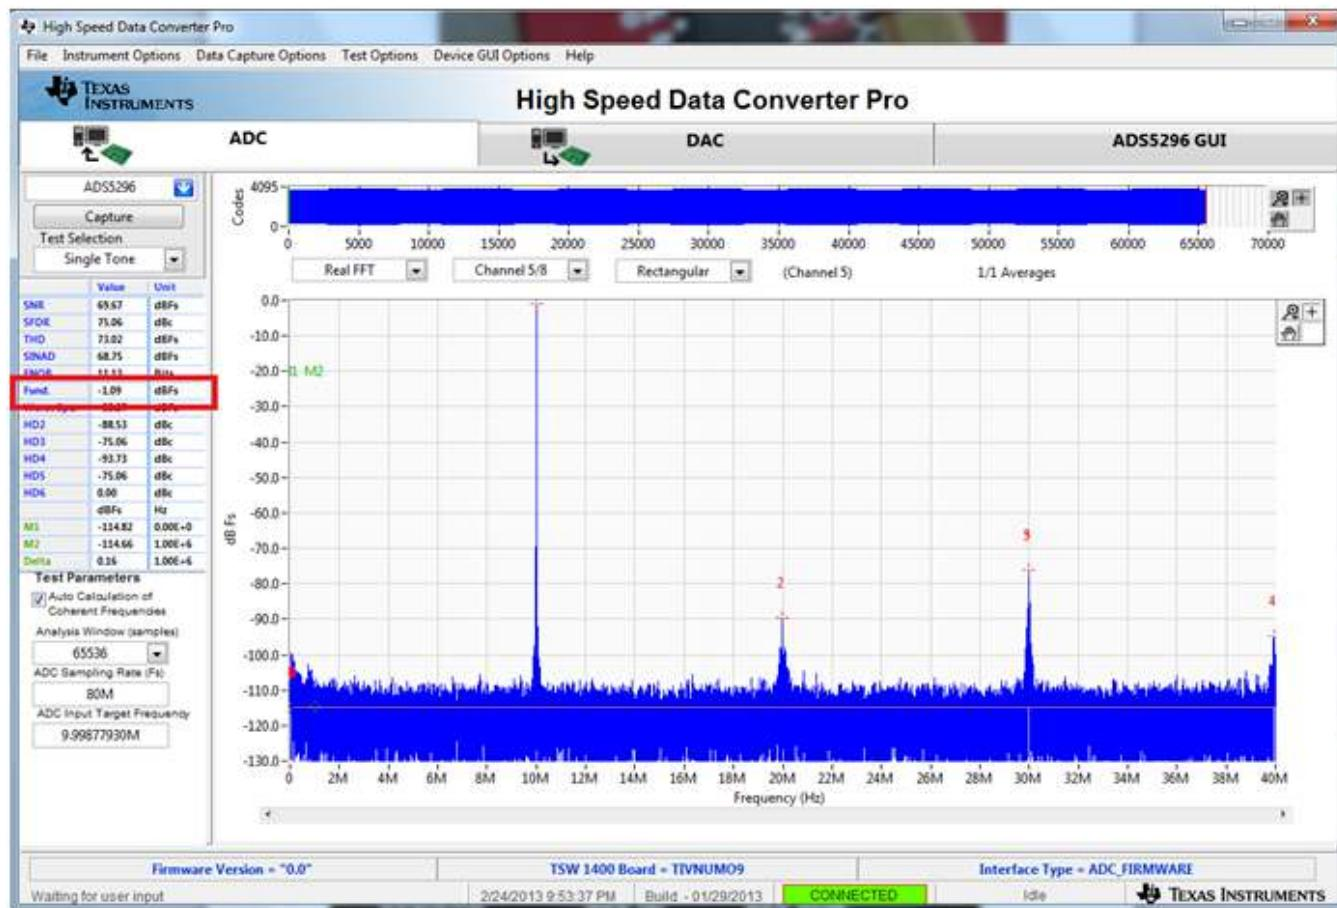

Figure 41. Octal Non-Interleaving Mode Capture 1
5. The plot will update as shown in Figure 41. Take note of the *Fund.* value in the left panel highlighted in RED in Figure 41. This value is dependent on the signal level set on the signal generator feeding the input signal to **J15**. It also depends on cable loss and filter insertion loss which can vary among parts. If needed, reset the signal amplitude (level) until the *Fund.* value is approximately -1.0 dBFS, as this is the condition for which the datasheet specifications are set. In the example shown here, the input level should be changed from 15.0 dBm to 15.1 dBm and then a capture retaken.